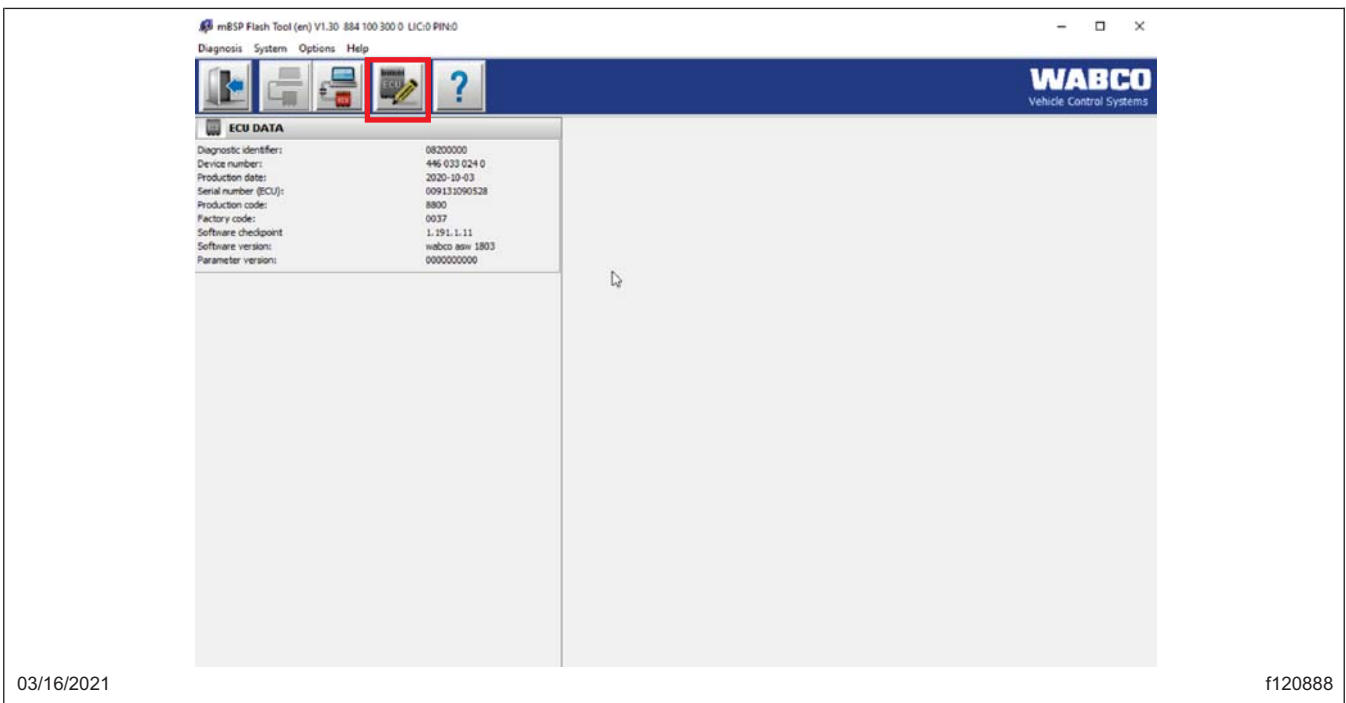

Fig. 28, ECU Software Update
13. Select the button in Fig. 28, 'ECU software update,' to begin the ECU update.